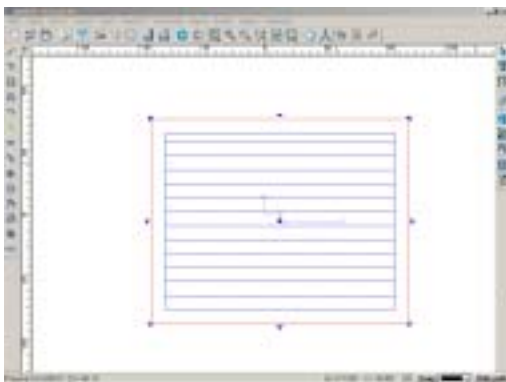
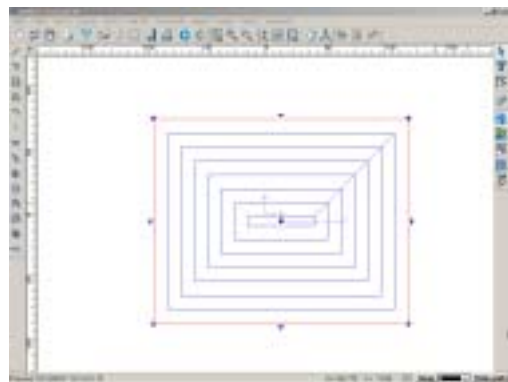

Fig. 10-24
Fig. 10-25
3. If we choose the end mill with a diameter of 20 and height of 10, set the angle at 0, the total depth at 2mm, overlap ratio of 50%, clockwise machining, then the effect is shown in Fig. 10-24. If we choose offset, the effect is shown in Fig. 10-25.